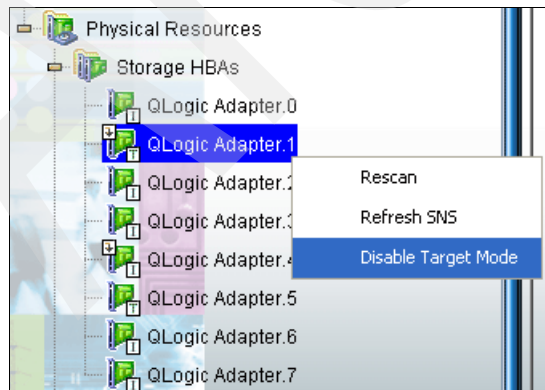

Figure 12-83 Changing a port from target mode to initiator mode
3. Right-click the icon for the desired HBA and then click **Disable Target Mode**. See Figure 12-83.